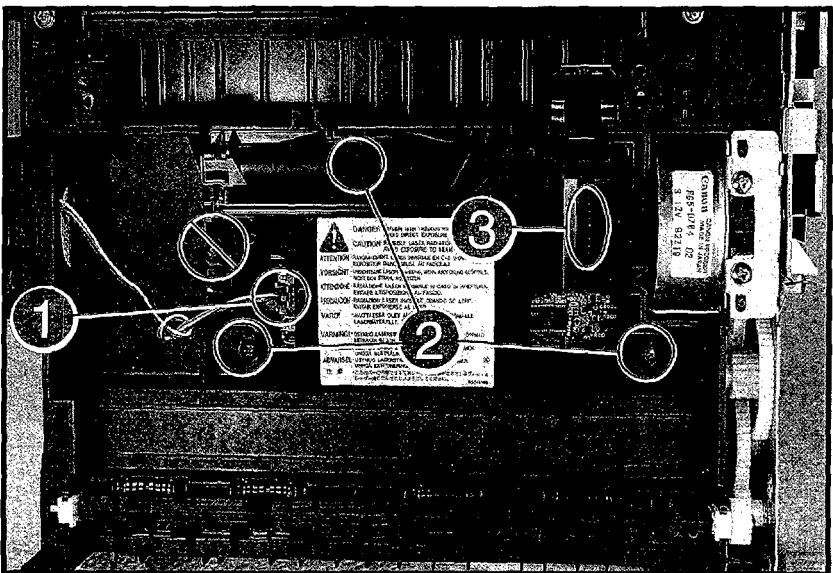

Figure 6-21 Removing the Laser/Scanner Assembly
2. Lift the foam cover and unplug the Fan connector (Figure 6-21, callout 1). (The Fan's power is via the Laser/Scanner Assembly.)
3. Remove the (3) self-tapping screws (Figure 6-21, callout 2).
**Note** The uppermost screw in Figure 6-21, callout 2, is under a protective light shutter. Do not remove the scanner cover screw (crossed circle in Figure 6-21). There are no field replaceable parts inside the Laser/Scanner Assembly.
4. Lift the Laser/Scanner Assembly at both ends to remove (there may be some connection resistance - Figure 6-21, callout 3).
2. Lift the foam cover and unplug the Fan connector from the Laser/Scanner Assembly (Figure 6-21, callout 1).